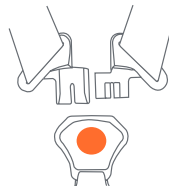

Fig. 38-1
- Type A: Put the two buckle tongues together, overlaying the left buckle tongue onto the right buckle tongue, and insert the two joined buckle tongues into the harness buckle on the crotch strap (Fig. 38-1). Type B: Insert each buckle tongue into the harness buckle (Fig. 38-2).